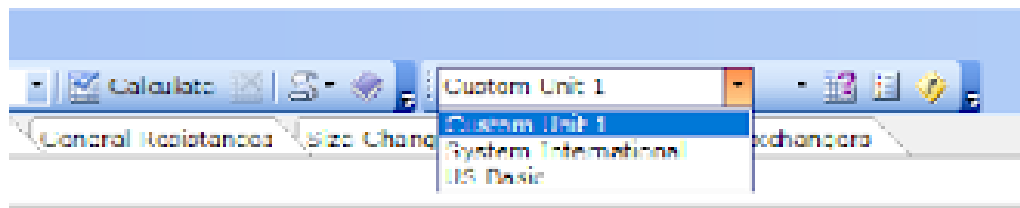

Figure 28: Unit Set Drop-Down Menu.
27. Now that we have successfully added our custom unit, it is now available in the unit set drop-down menu (Figure 28). Let us now use **Custom Unit 1** as our preferred unit set for this example.